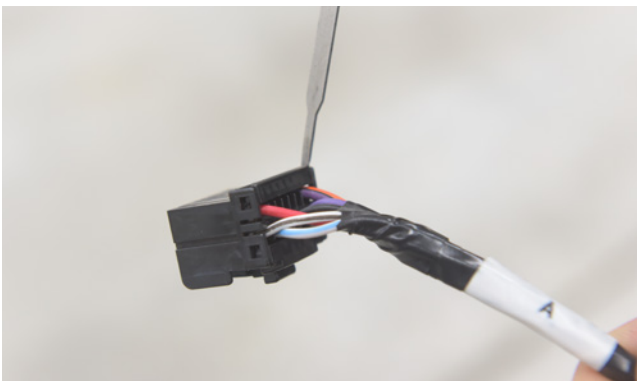

Figure 9
12. Release the locking tab on the connector (Fig. 9).